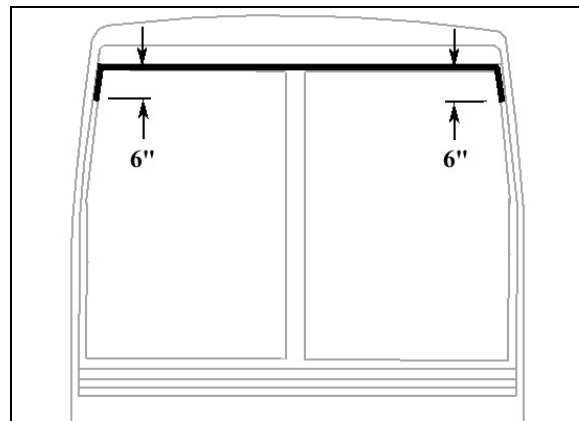

FIGURE 52: APPLICATION OF SIKA 221 BLACK
- At the top of windshield, clean surface between fiberglass and rubber extrusion using Sika 205 (Fig.52).